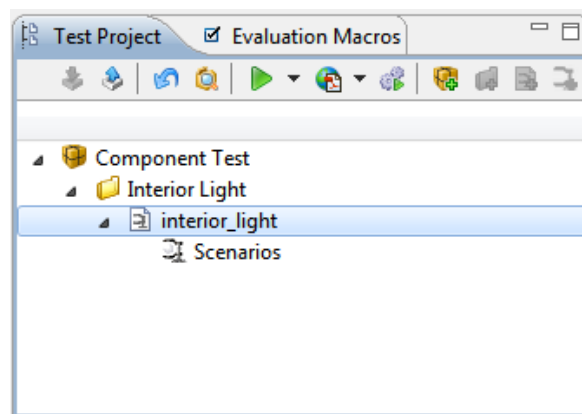

Figure 5.77: Test Project view with a component test
- The bracket of the scenarios in the Test Project view will open to indicate that it contains test cases but no data (see figure 5.77).